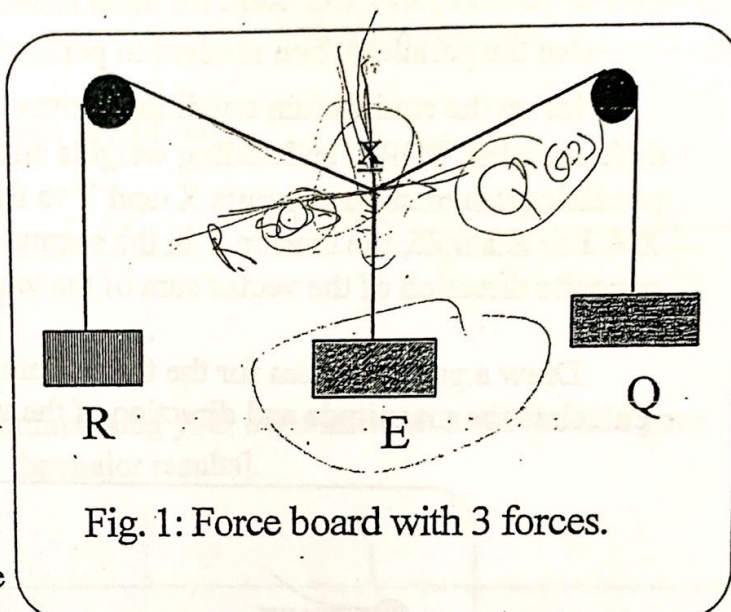

Fig. 1: Force board with 3 forces.
Figure 1 shows the experimental set-up for this experiment.
1. Place appropriate weights on pans R and Q (see fig.1). (Include the weight of the pan).